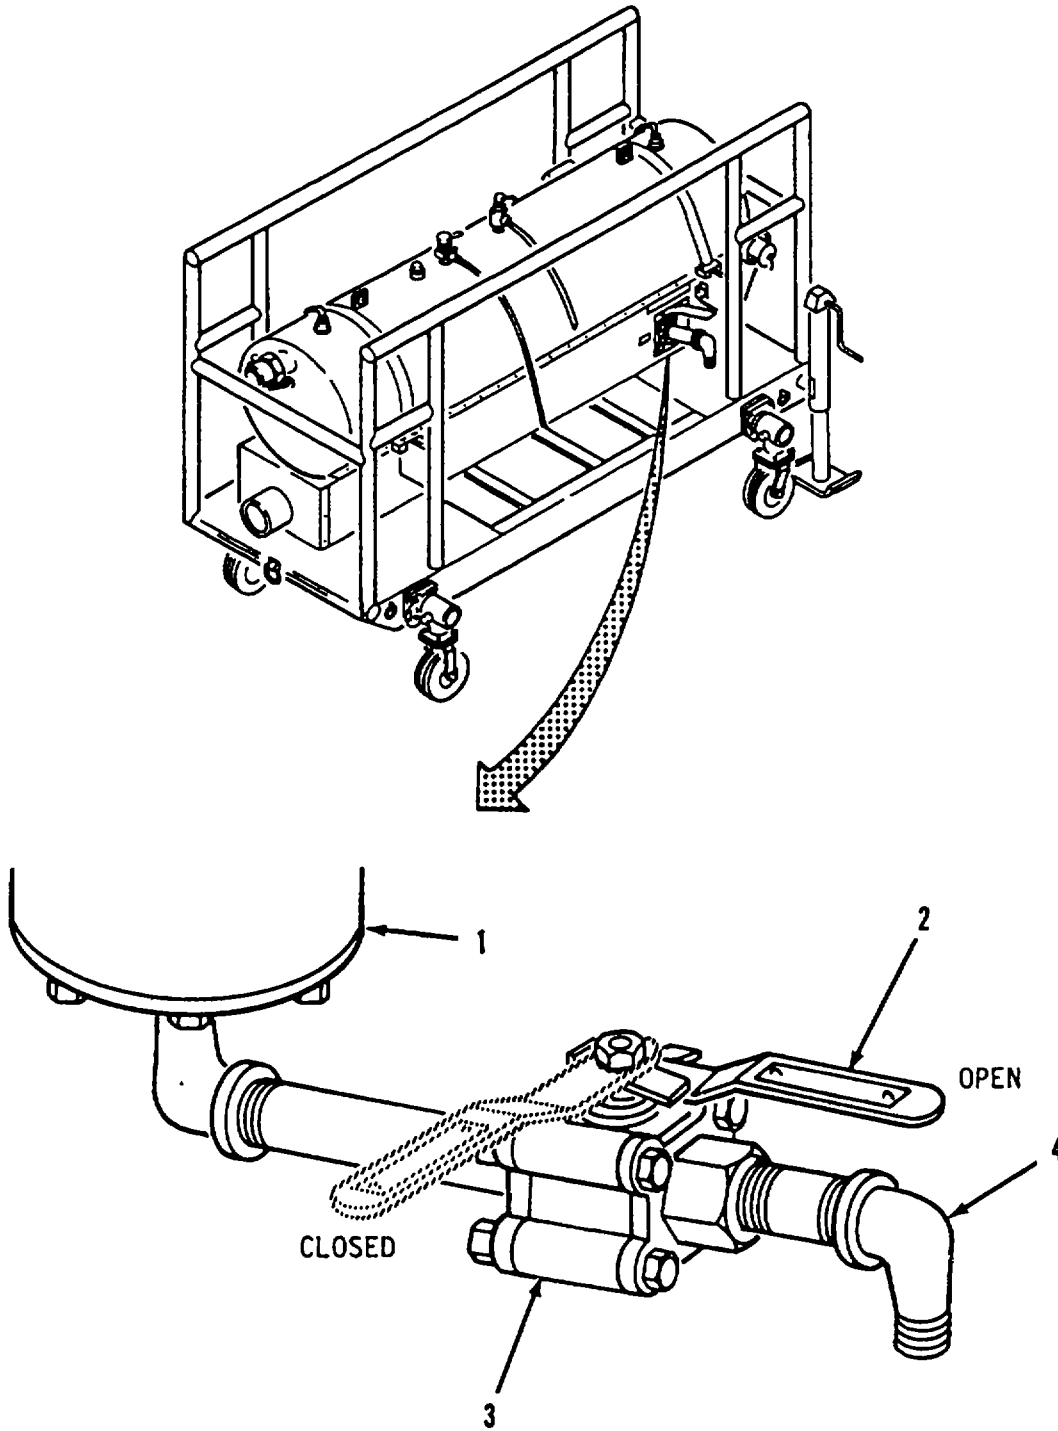

Figure 2-16. Draining Water From Sump.
- (1) Amounts of water and solids present in the fuel supply.
- (2) Quantity of fuel being dispensed from the system.
- (3) Duration of fuel system operation.
- b. Draining Water From Sump (Refer to Figure 2-16).